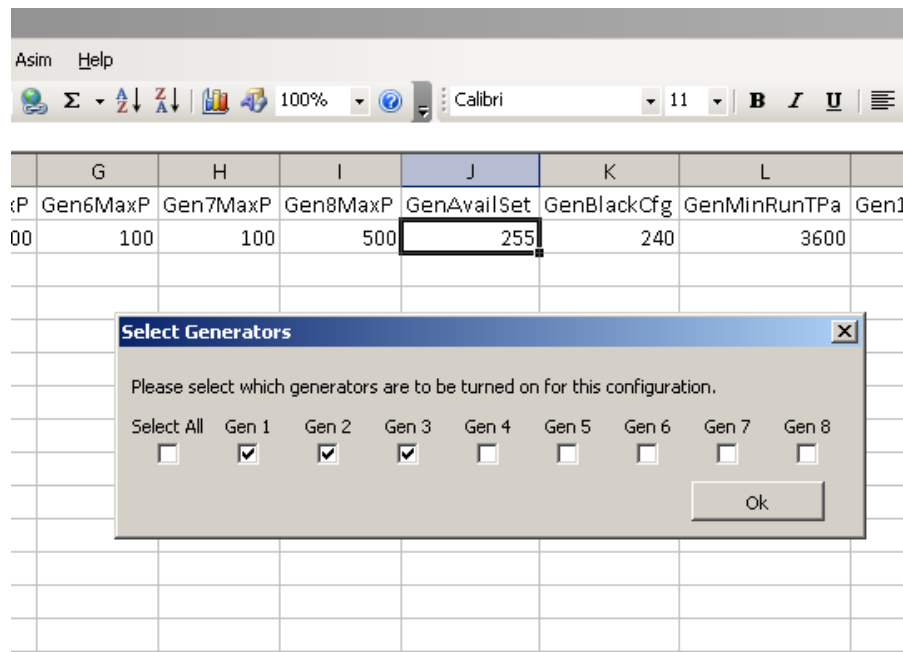

Figure 15: GenAvailSet tick box pop up
2. Select the cell under Gen1MaxP and enter the value of 500. Do the same for Gen2MaxP and Gen3MaxP using values of 450 and 700 respectively. The values assigned to Gen4MaxP to Gen8MaxP can remain as these will not be used in our demonstration (see Figure 15).